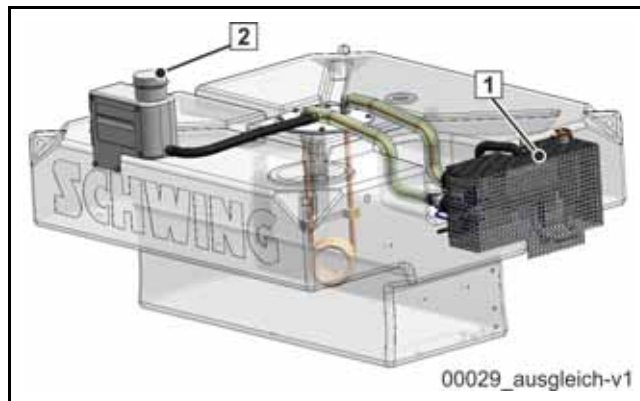
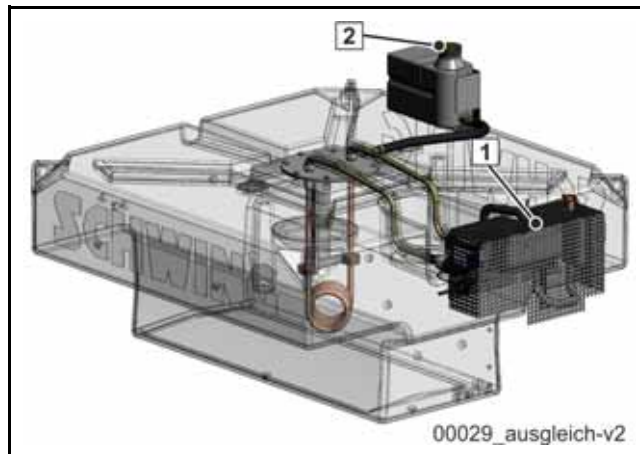

Fig. 624
Fig. 625
The water heater **(1)** (**Fig. 624**) is a piece of special equipment.
There are two possible installation points for the expansion tank: (2) (**Fig. 624**) or (**Fig. 625**).
- Make sure there is enough fluid in the heating circuit's expansion tank (2).